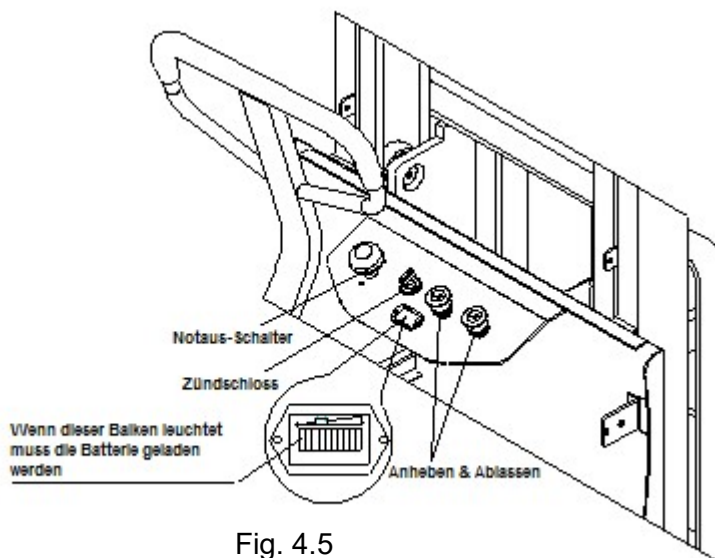

Fig. 4.5
To determine the battery's state of charge, the forklift must be switched on (turn the key). If only the left bar of the display lights up, the battery must be charged (see fig. 4.5).
3. Adjust the forks to the correct height with the knobs (see fig. 4.5).
6. Move the load to its destination and lower the forks with the buttons (see Fig. 4.5).